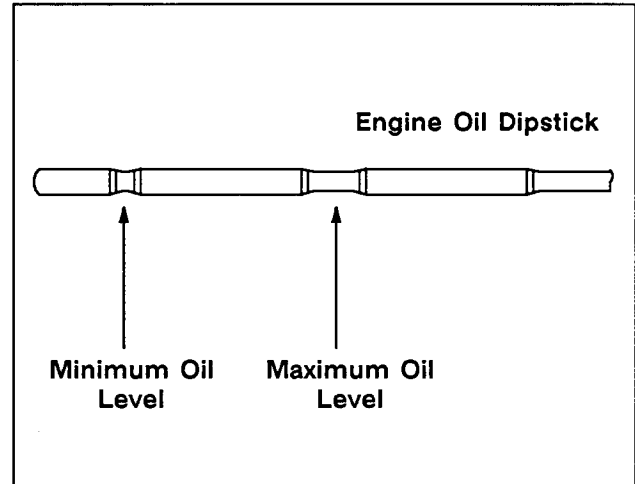

Figure 3-4. Lube Oil Safe Range
3. Replace drain plug and tighten securely. Install new oil filter. See "oil Filter" following. Add proper weight/type oil to crankcase until oil reads in "safe" range on dipstick (Figure 3-4).